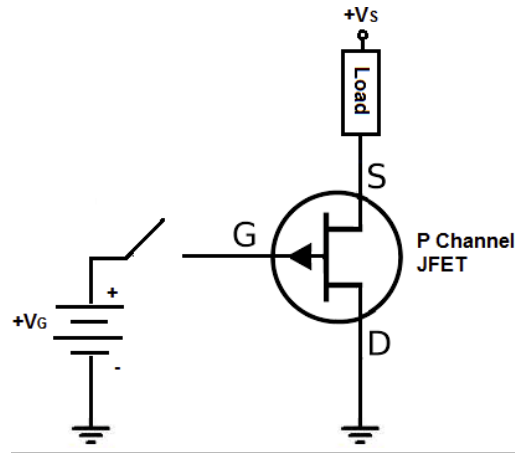

Figure 9: Circuit for plotting I_D vs V_D and transfer characteristics of p-channel JFET (J176)
1. Connect the circuit as shown in figure 9. Keep $V_S = 10\text{ V}$ constant.
1. Connect the circuit as shown in figure 9. Keep $V_G = 15$ V constant.